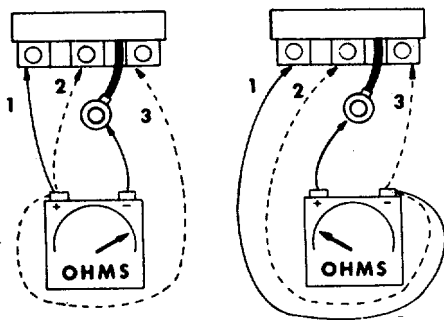

Fig. 15
1. Connect the negative lead of the tester to the output lead of the diode trio and touch the positive tester lead to each of the three copper terminal pads. (See Figure 15.) A low resistance should be indicated and if a test lamp is being used, it should light.